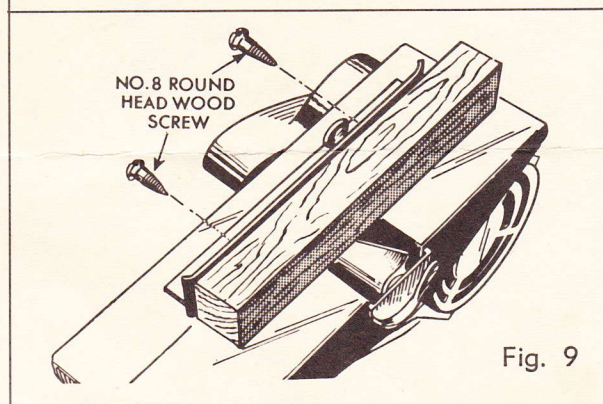

Fig. 9
**SPECIAL CUTTING:** Special cuts such as rabbets, steps and bevels can be made by fastening wood blocks to the fence. You can make your own wood blocks to guide the plane for such cuts. The wood blocks are attached to the fence by two small wood screws inserted through the holes provided in the fence as shown in Fig. 9.